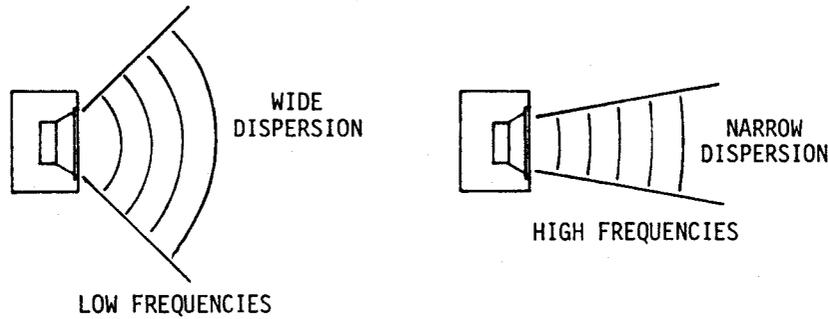

FIGURE 2 – 12-inch Speaker Dispersion
**Highs Miss Half Your Audience.** Let's say your system uses only a 12-inch cone speaker mounted in a box. Take a look at Figure 2.